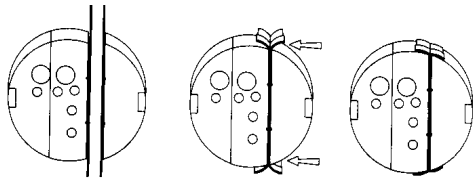

FIGURE 19 -TAPE FOLDING BACK
8.07 While tightening, the excess LOCK-TAPE Sealant extending from the End Plate section will fold back. When the LOCK-TAPE Sealant stops moving (folds back), the bolts are sufficiently tight. (Figure 19)